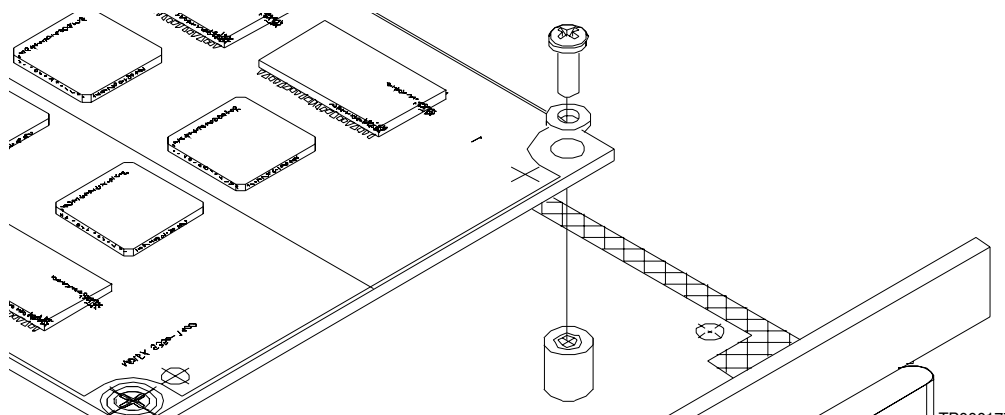

Figure 4: Securing the SRM
4. Secure the SRM (refer to Figure 4) with the four screws and washers removed in Step 2.
Line Impedance:	BS6305 Figure 4: 1982 (Complex Termination)